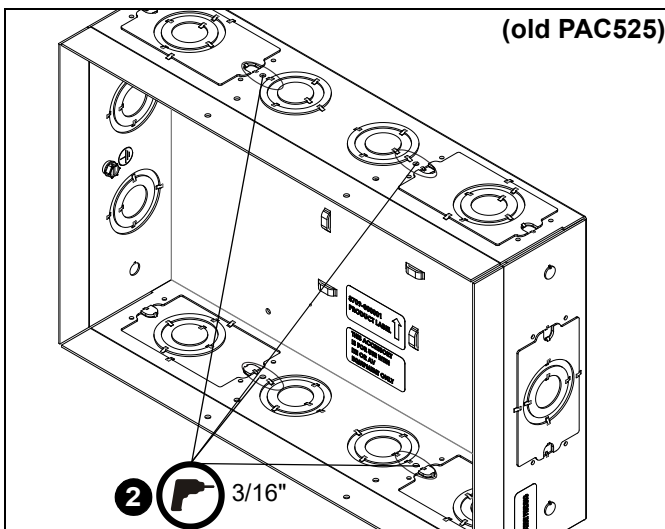
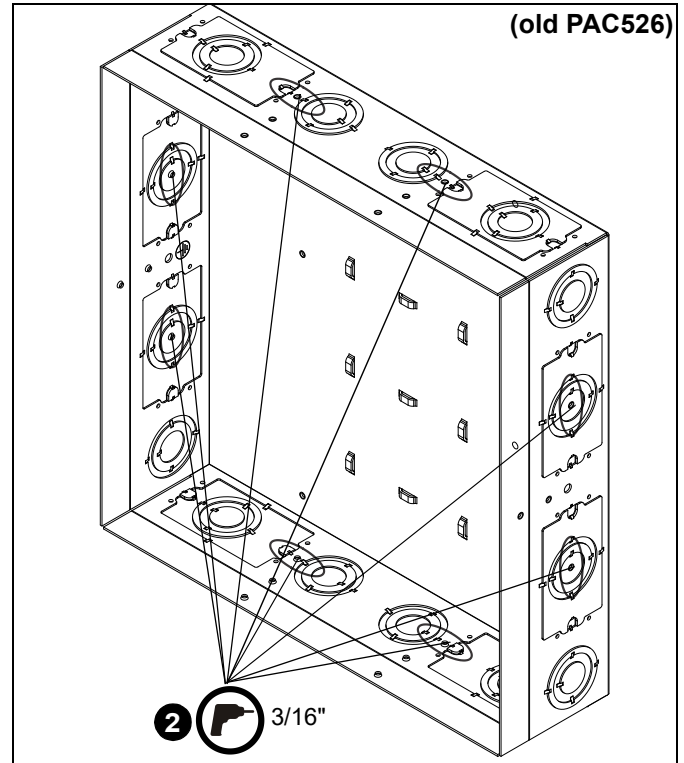

Figure 6
Figure 7
2. Drill 3/16" holes at locations shown on templates. (See Figure 6) or (See Figure 7)